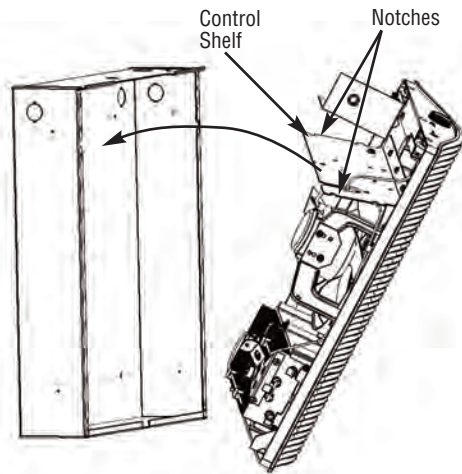

Figure 6- Installation of Heater/Grille Assembly
1. Lift and rotate the grille assembly into the back box carefully to ensure the wiring is not trapped between the grille assembly and back box. Position the grille assembly in front of the back box and insert Control Shelf into the notches on either side of the back box. At the same time hooking the tabs on the bottom corners of the grille assembly over the bottom flange of the back box. Refer to figures 6 and 7.